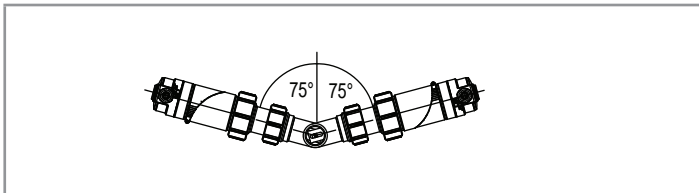

Fig. 11: Angle to the vertical
- Install the fitting in the pipe at an angle of  $\pm 75^\circ$  max. to the vertical (see Fig. 11) in accordance with the instructions in the Operating Instructions for the fitting used.